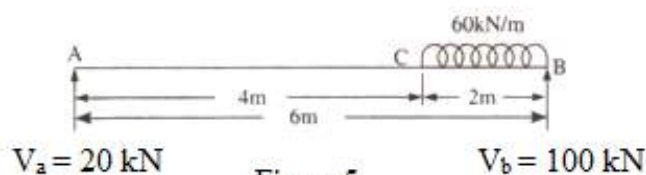

Figure 5
6. Figure 5 shows a simply supported steel beam AB of span 6 m carrying a uniformly distributed load of 60 kN/m on the part CB. The beam is ISWB having $I_{xx} = 9821.6 \text{ cm}^4$. Determine (i) The slopes at A and B, (ii) Deflection at C, (iii) Maximum deflection Take $E = 200 \text{ kN/mm}^2$